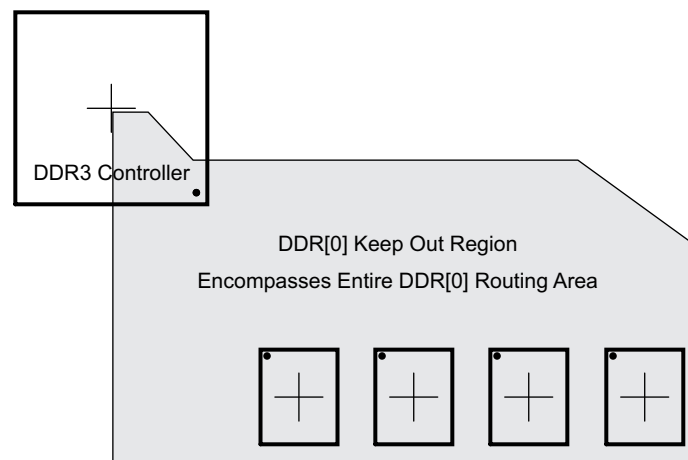

Figure 8-59. DDR3 Keepout Region
(2) Measurements from center of processor to center of DDR3 device.
(3) Minimizing X1 and Y improves timing margins.
(4) w is defined as the signal trace width.
(5) Non-DDR3 signals allowed within DDR3 keepout region provided they are separated from DDR3 routing layers by a ground plane.
The region of the PCB used for DDR3 circuitry must be isolated from other signals. The DDR3 keepout region is defined for this purpose and is shown in Figure 8-59. The size of this region varies with the placement and DDR routing. Additional clearances required for the keepout region are shown in Table 8-65. Non-DDR3 signals should not be routed on the DDR signal layers within the DDR3 keepout region. Non-DDR3 signals may be routed in the region, provided they are routed on layers separated from the DDR signal layers by a ground layer. No breaks should be allowed in the reference ground layers in this region. In addition, the 1.35-V/1.5-V DDR3L/DDR3 power plane should cover the entire keepout region. Also note that the DDR3 controller's signals should be separated from each other by the specification in item 5 (see Table 8-65 for item 5 specification).